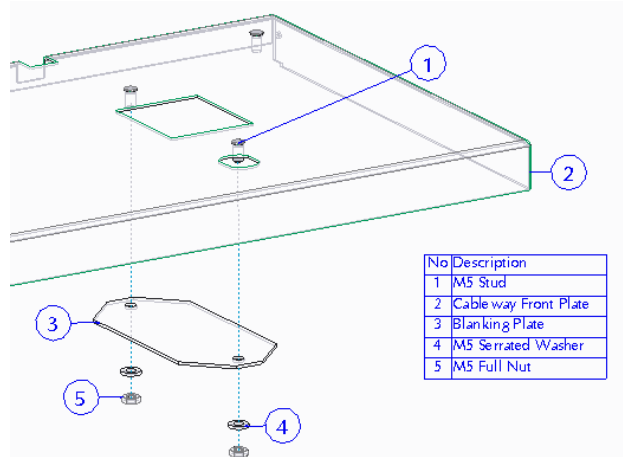

Fig. 7
- Depending on how many earth leakage devices will be used, ensure that any apertures on the front plate left exposed are blanked off. Refer to Fig. 7 for details.